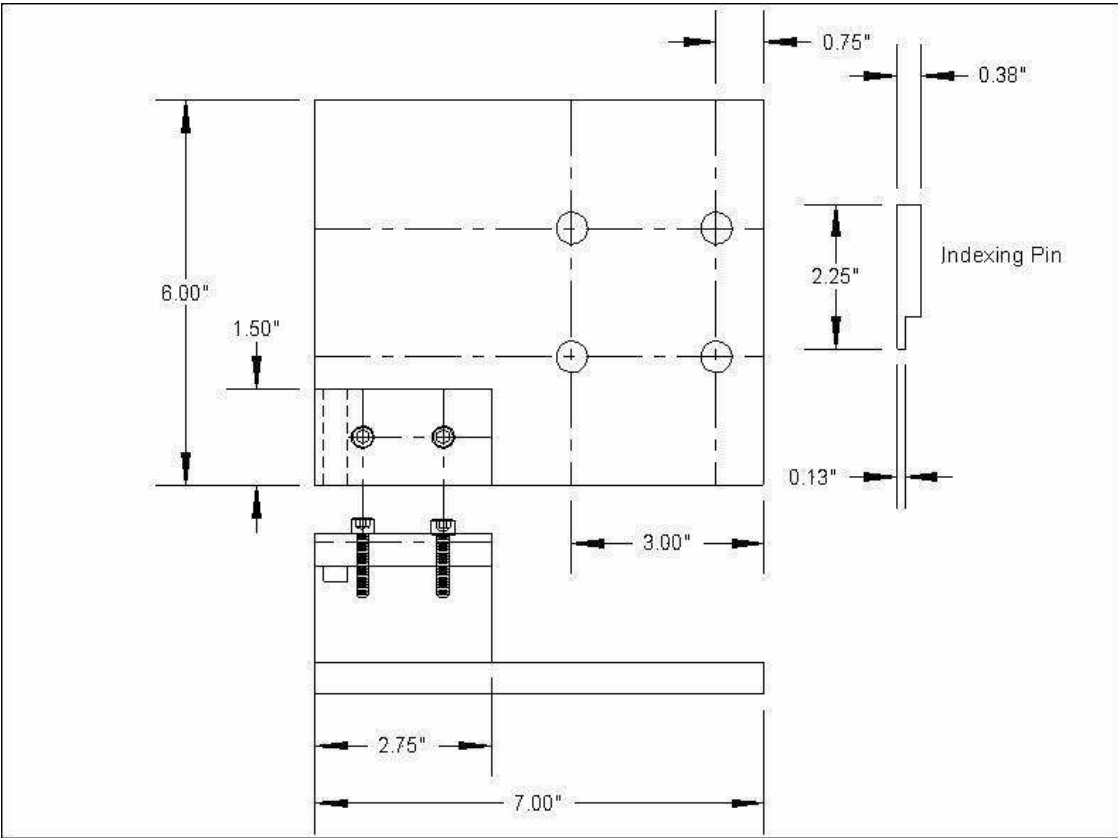

Figure 10 - Indexing Jig, Part B
- Figure 10 - Indexing Jig, Part B . . . . . 8